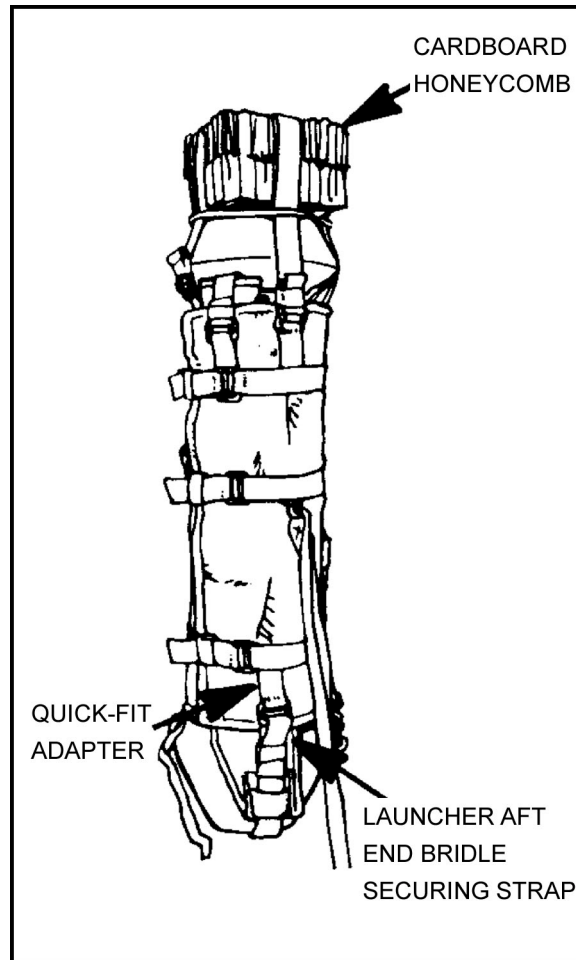

Figure 12-35. Honeycomb squares secured.
(1) Route the missile launcher aft end bridle securing strap through its quick-fit adapter and tighten, using a quick-release fold.
(2) Secure two 9-inch-square blocks of cardboard honeycomb energy dissipater across the forward shock absorber of the missile, using the launcher forward end securing straps. Tighten the straps and form an X over the center of the honeycomb. Secure the straps using a quick-release fold (Figure 12-35). Tie one turn of 1/4-inch cotton webbing around the X formed by the launcher forward end, securing straps in a surgeon's knot and locking knot. Tie another one turn of 1/4-inch cotton webbing around the launcher forward end, securing straps below the cardboard honeycomb energy dissipater in a surgeon's knot and locking knot.